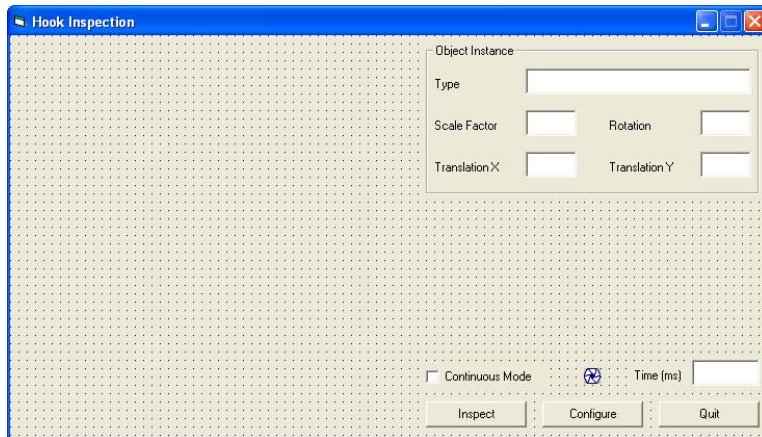

Figure 61 Resized Visual C++ Dialog for Tutorial 2
1. Start by extending the dialog template. Set the width to approximately 486 and the height to approximately 239. Reorganize the text boxes and buttons to look like the dialog in Figure 61.